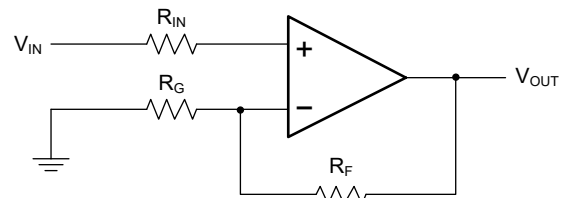
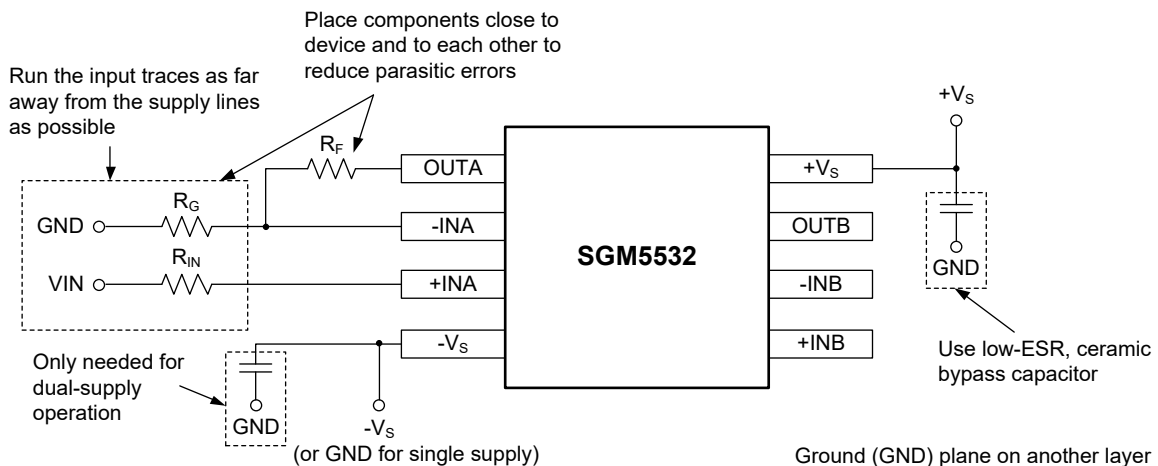

Figure 3. Operational Amplifier Schematic for Non-Inverting Configuration
Figure 4. Operational Amplifier Board Layout for Non-Inverting Configuration
- Place the external components as close to the device as possible. Keeping RF and RG close to the inverting input minimizes parasitic capacitance, as shown in Figure 3 and Figure 4.